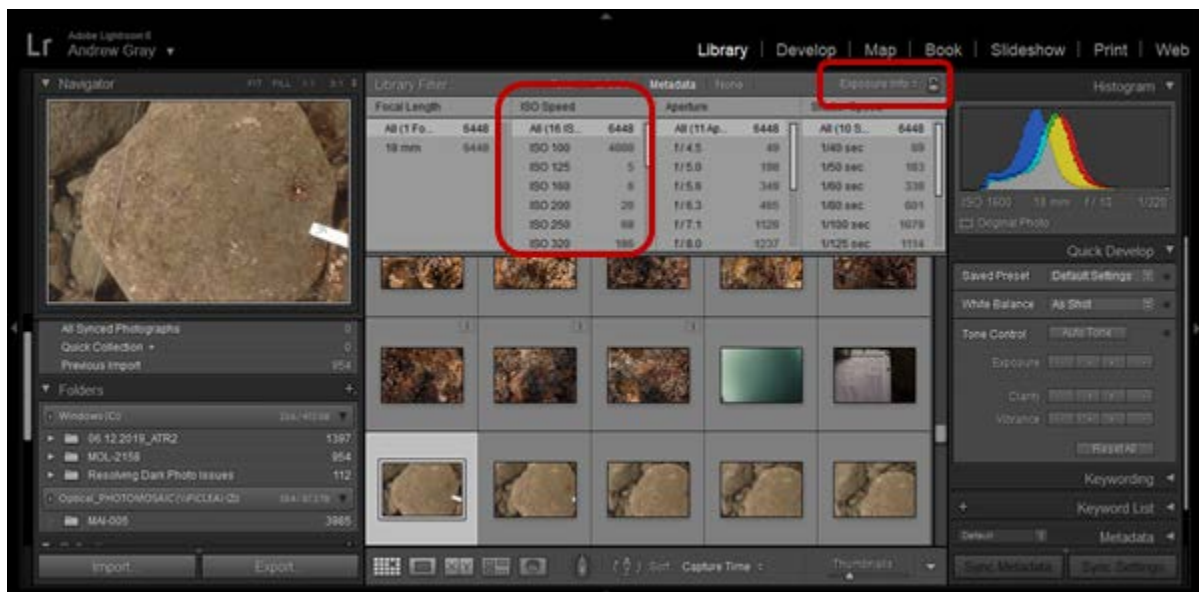

Figure 11. Lightroom interface highlighting the location of the Filter tab and the ISO selection within the 'Camera Info' filter.
4. Sort them by ISO by clicking on the 'Filters Off' text at the upper right corner of the thumbnails window. Select 'Exposure Info.' You can now select photos by highlighting them in the ISO column (Figure 11).